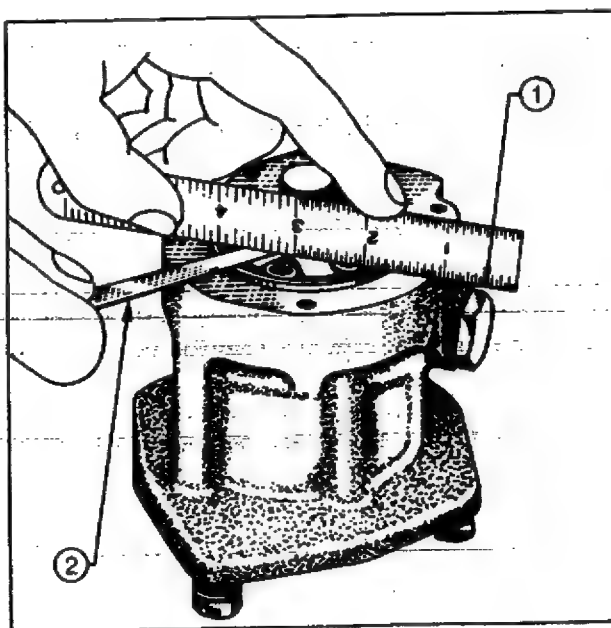

Fig. 17
9. Place a straight edge across the cam ring, with the "O" ring removed. Check the clearance on the ends of the carrier and the rollers (see Fig. 17). If this clearance exceeds 0.002 in. (0.05 mm.), the cam ring, the carrier and the rollers must be renewed. Install the carrier and the rollers and fit a new snap ring to the carrier shaft.